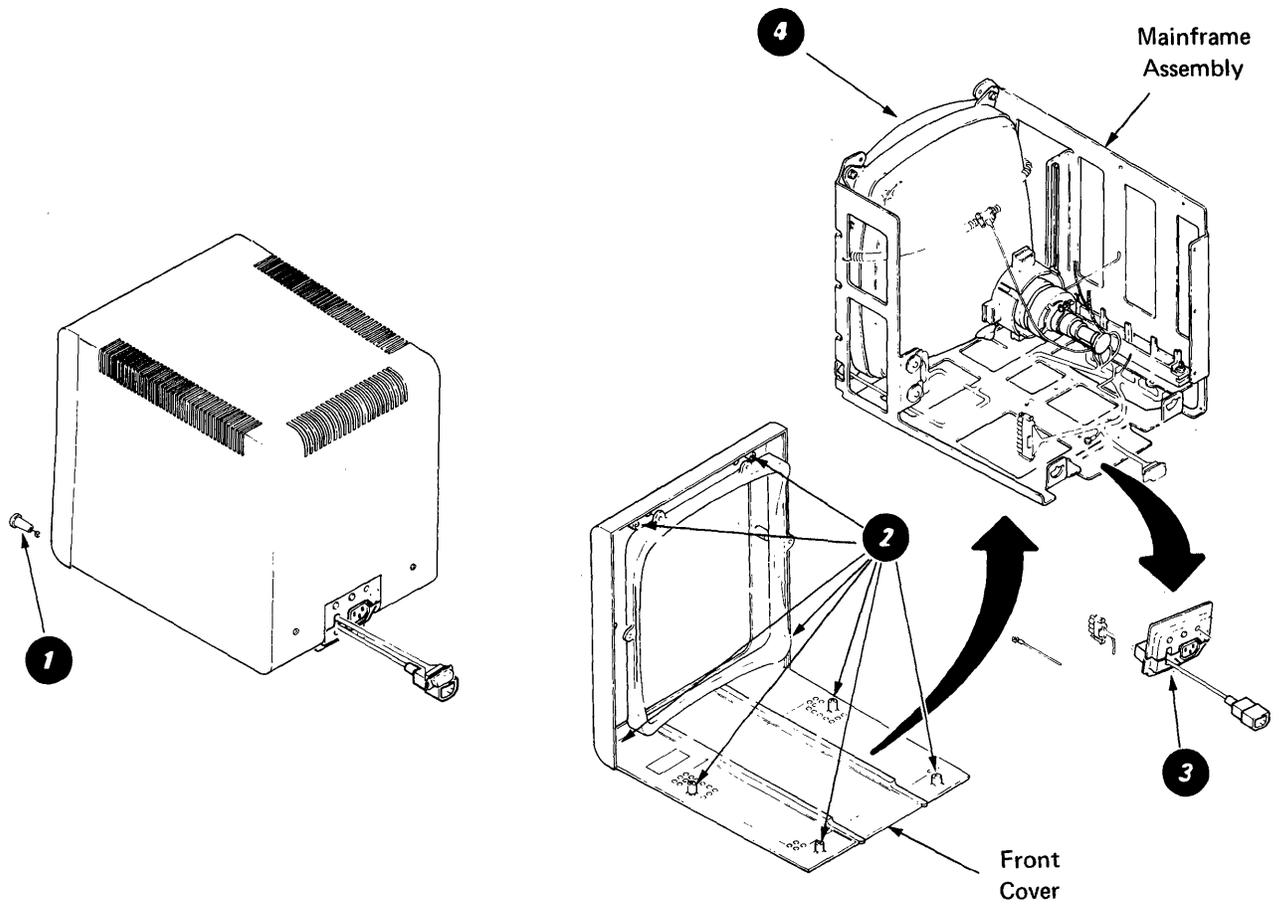

Figure 4-23. Mainframe Assembly and Front Cover Removal
2. Remove the brightness control knob ①. (See Figure 4-23.)